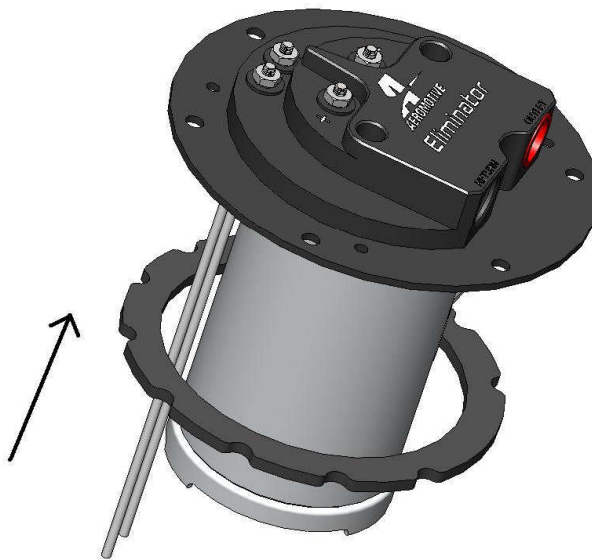

FIGURE 1-2
10. Before placing the new Aeromotive Stealth assembly in the tank, install the new pump-to-tank gasket. It only goes on one way, rotate the gasket until all of the bolt holes line up. **FIGURE 1-2**